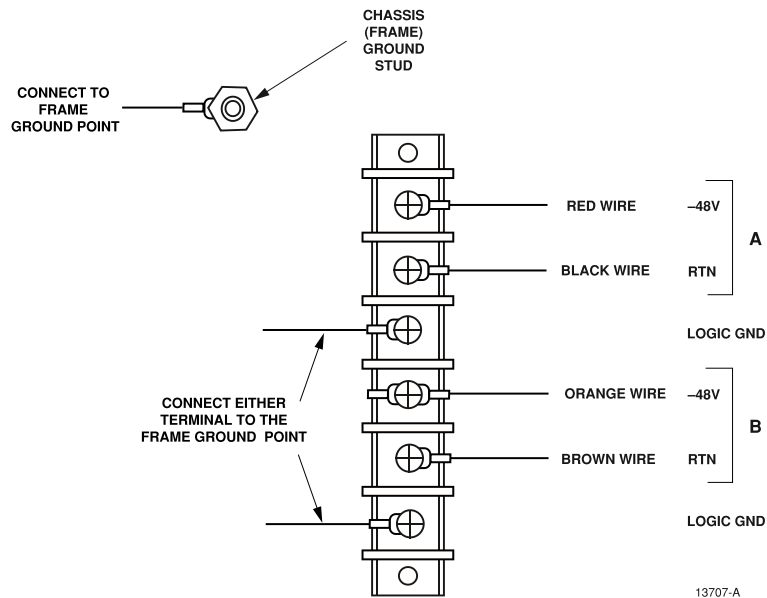

Figure 4-5. Chassis Ground Stud and Logic Ground Terminal Connections
4. Attach the ring terminal end of the wire to the chassis ground stud located adjacent to the power terminal strip as shown in Figure 4-5.
5. Attach the fork terminal end of the wire to either one of the two **LOGIC GND** terminals on the power terminal strip (see Figure 4-5). Note: The two terminals are connected together internally so that only one of the two terminals requires connection to ground.